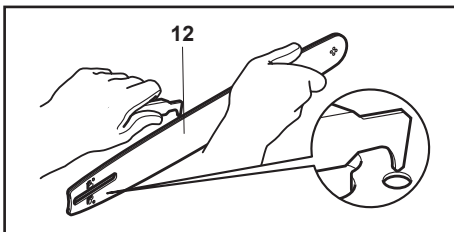

Fig. 14b
3. Check the drive sprocket (12). If it is worn or damaged due to strain, have it replaced by an authorised service centre.
4. Clear residue from the rails on the guide bar (4) using a screwdriver, putty knife, wire brush or other similar tool. This will keep the oil passages open to provide proper lubrication to the guide bar (4) and saw chain (3) (Fig. 14b).